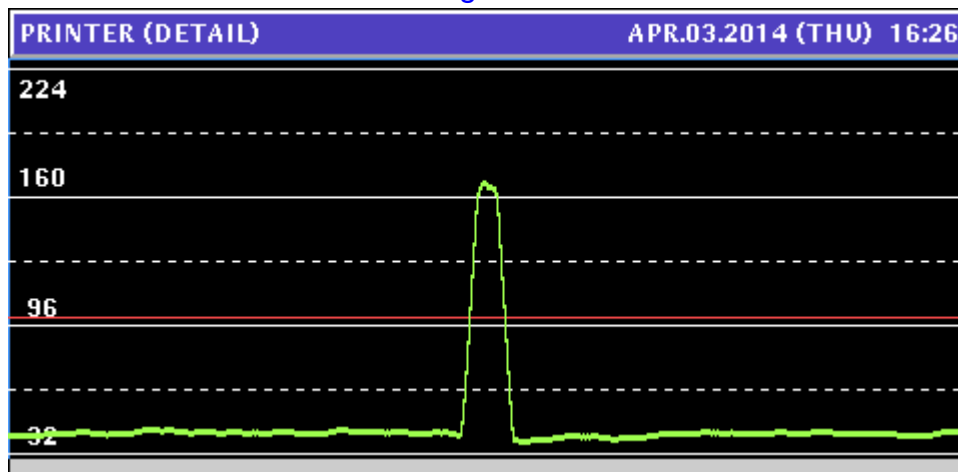

Figure 73. Label Gap Sensor Graph
- ii. The graph should resemble the image shown below. The horizontal line along the bottom may or not be visible. The spike represents the space between the labels. See Figure 73.